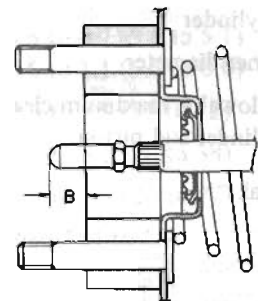

Fig. BR-57 Length at "B"
4. After assembly, adjust length of push rod to less than specified value indicated in Figure BR-57. Length adjustment of push rod is made at the tip of push rod.